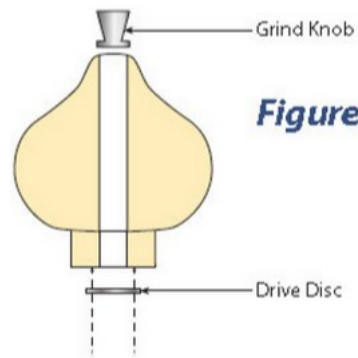

Figure 3
1. Layout mill parts according to Figure 3